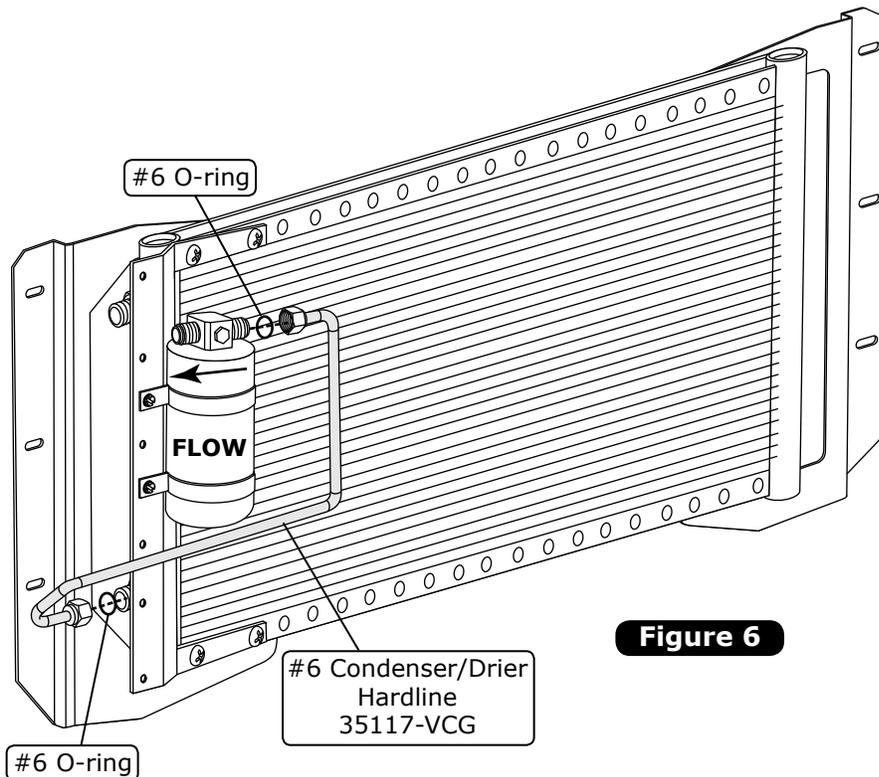

Figure 6
1. Lubricate (2) #6 O-rings (See Figure 5, above), and install the #6 condenser/drier hardline as shown in Figure 6, below. Tighten fittings as shown in Figure 5, above.